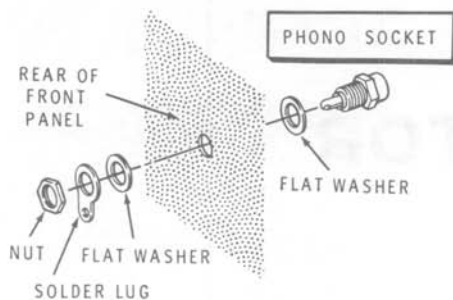

Figure 26
- ( ) Refer to Figure 26 and mount a phono socket as shown.